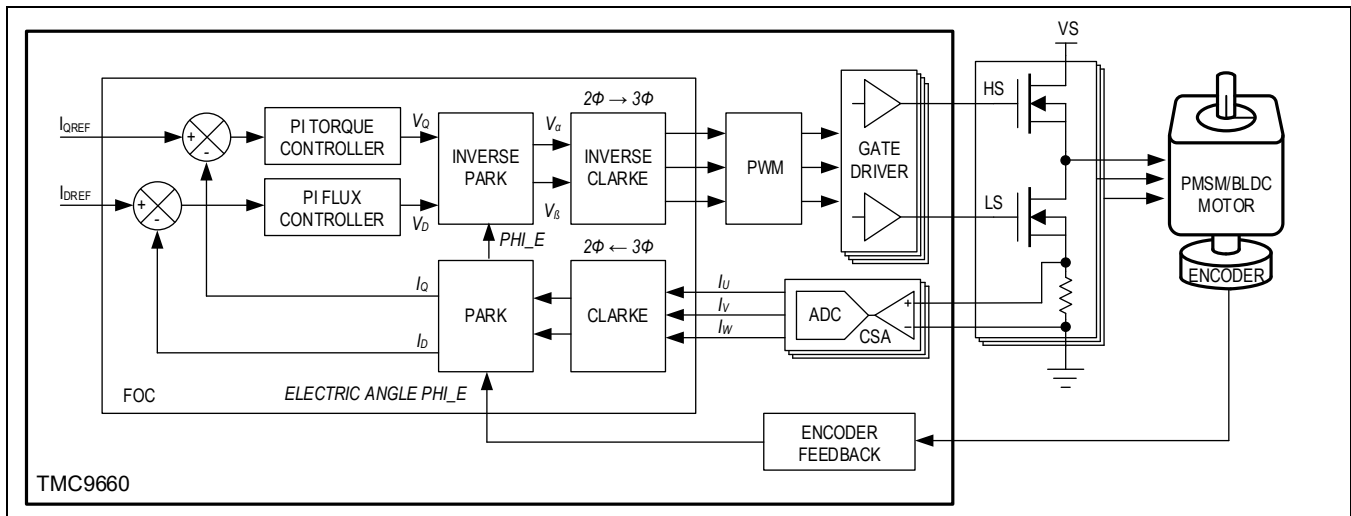

Figure 15. Field-Oriented Current Controller (FOC)
Field-oriented control/FOC—also referred to as vector control—belongs to the class of variable frequency drive (VFD) control method for brushless motors with coil windings in the stator. With the help of the rotor position angle, the motor currents through the stator coil windings are transformed into two linear time-invariant orthogonal components (vectors) for torque (I_Q) and magnetic flux (I_D) (Figure 15). This transformation allows using standard proportional-integral (PI) controllers and a control architecture already well-known from DC motors. The outputs of the controllers are transformed back to voltage levels and converted to PWM signals for driving the half bridges—one for each motor coil connection.